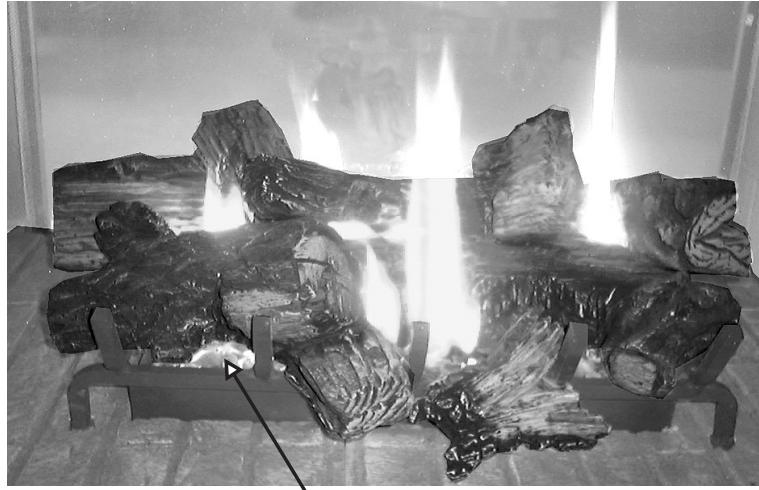

Figure 75 - Burner Flame Appearance
1. Refer to **Figure 75** for proper flame appearance. To adjust the flame, rotate the adjustment rod toward the back or toward the front of the fireplace (rod located in the lower control area). Position the air shutter to the factory setting as shown in the table in **Figure 76**.